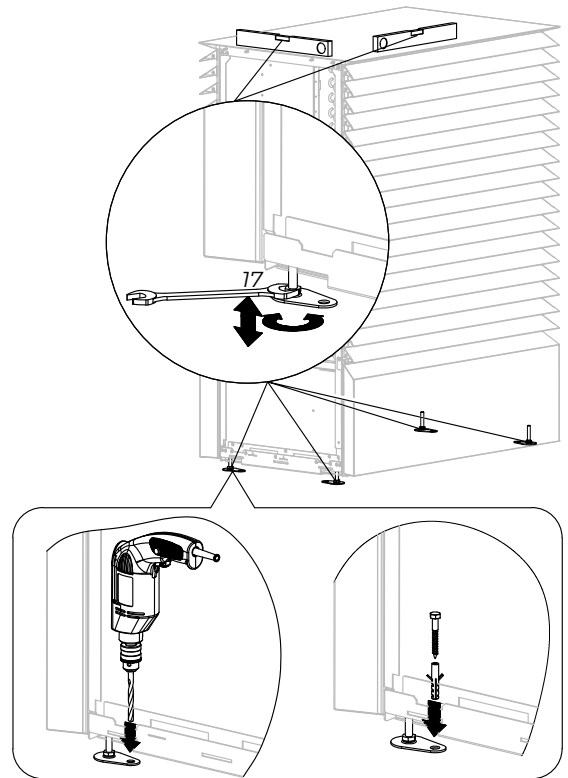

Figure 9: Straightening and affixing to the base
2. Affix the appliance to the prepared base (Figure 9).